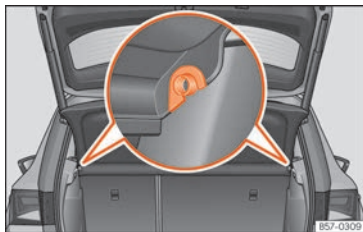

Fig. 116 In the luggage compartment: removing and fitting the shelf.
- Remove the rear shelf from the side supports »» Fig. 116 by pulling it upwards and then take it out.
- Insert the cover horizontally so that the “recess” fits onto the axis of the supports »» Fig. 116 and press down until it engages.